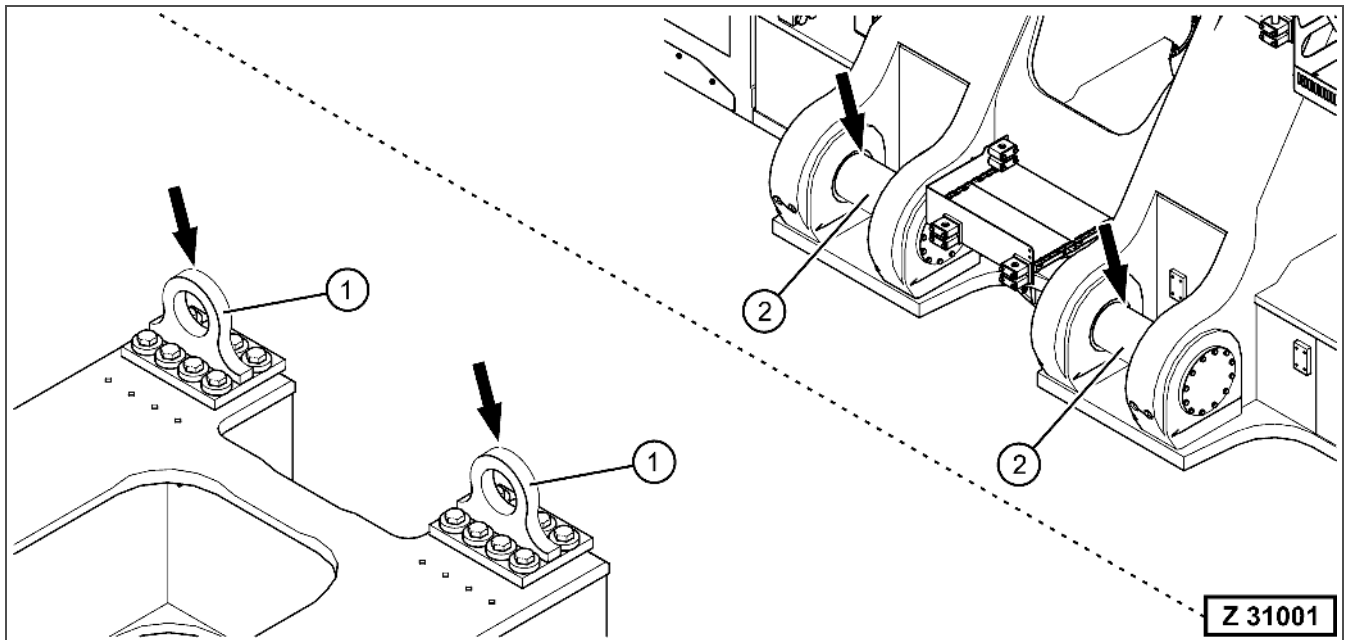

Fig. 3-557 Lifting points for superstructure lifting
11. Install the shackles (Fig. 3-557, Pos. 1) delivered with the machine to the flanges of the counterweight and attach both shackles to a crane.
12. Attach the superstructure to a second crane by means of the boom cylinder foot bearing pins (Fig. 3-557, Pos. 2).